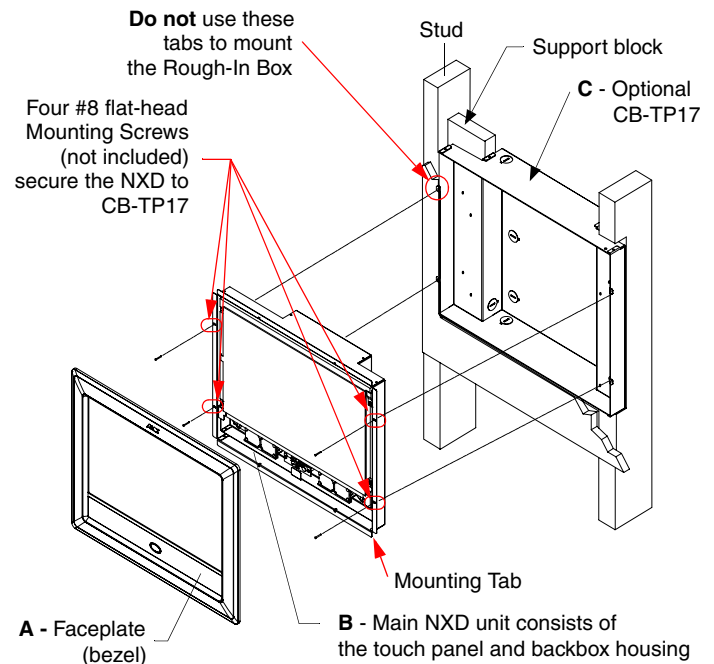

FIG. 1 Wall Mount panel installation configuration of a CB-TP17
1. Remove the magnetic faceplate/bezel (**A** in FIG. 1) from the main NXD unit (**B** in FIG. 1) by gripping the faceplate and pulling with gentle outward force.
6. Carefully slide the main NXD unit (**B** in FIG. 1) into the Rough-In Box, so the Mounting Tab lies flush against the Rough-In Box (**C** in FIG. 1).
8. Replace the magnet faceplate (**A** in FIG. 1) back onto the main NXD unit. Make sure to align the Microphone, Light, and PIR Motion sensor locations to their respective openings on the front bezel/faceplate.